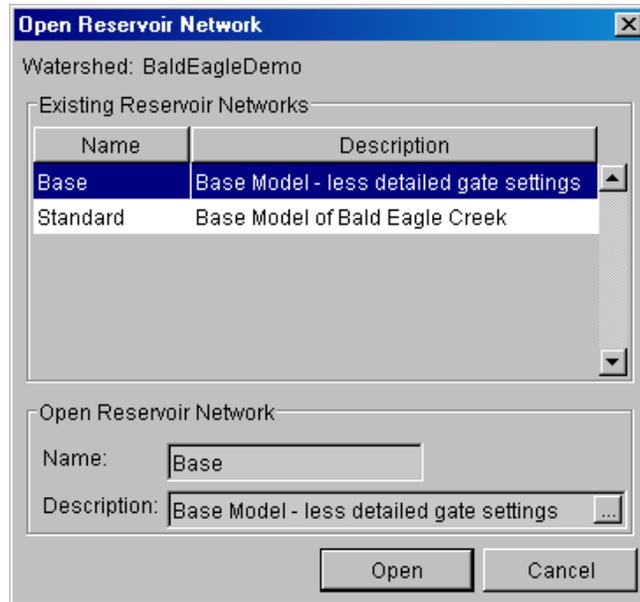

Figure 8.12 Open Reservoir Network Dialog Box
1. From the **Network** menu, select **Open**. The **Open Reservoir Network** dialog box will appear (Figure 8.12).